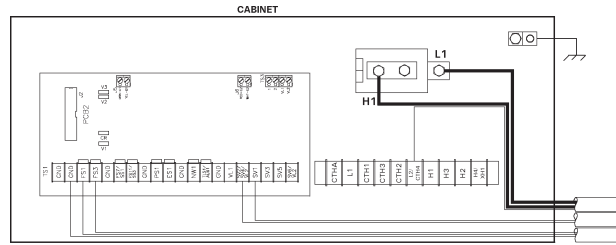

**Figure 4-9. Wrong low and high voltages conduit routing**
**WRONG** example for wiring and routing of low and high voltages conduit for typical EN1000 Series Controls is shown in Figure 4-9.